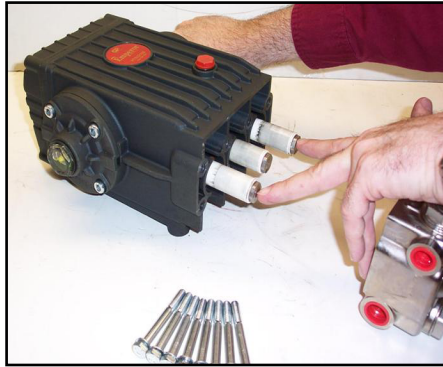

Figure 16. Re-install Manifold and Torque Fasteners
1. Position the outer plungers at the same position (see Figure 16).